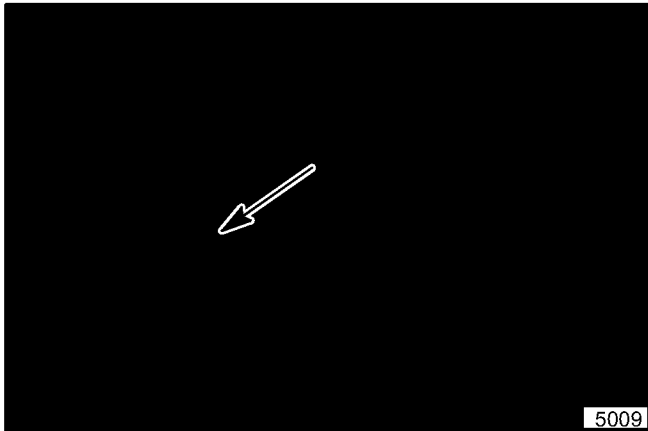

Figure 3. Reel Clamp Lever (Left Side Shown)
6. Move the reel clamp levers (left and right side) toward rear of unit to release the reel clamps (see figure 3).